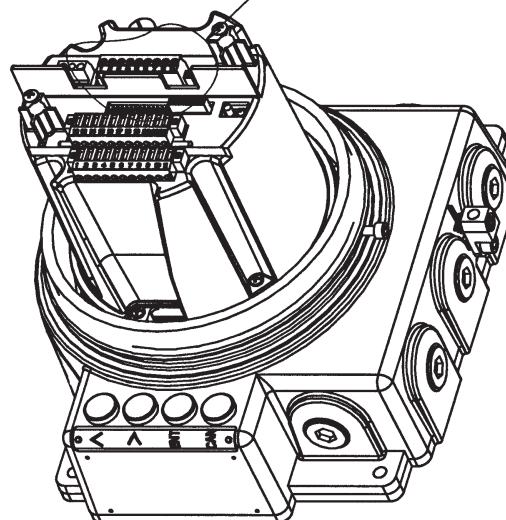

Figure 3.5.1: Transducer Cable Connections
***NOTE: If the transducer cable requires connection to the NexGen transmitter terminals, see Figure 3.5.1.***